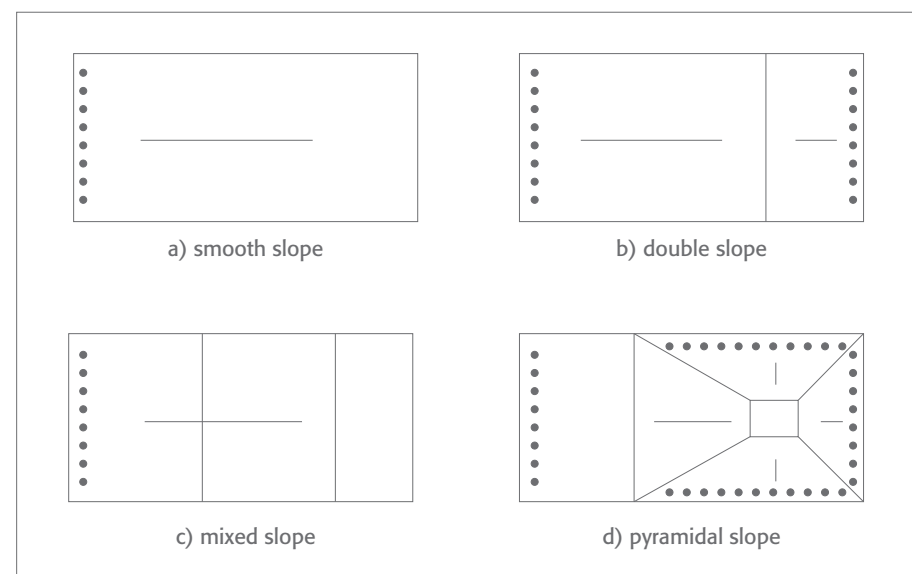

Figure 14: Mechanical fixation on the slopes
a) First fix the pool bottom or wall heel in place with edge trims (5 per linear metre) using whichever of the methods shown in Fig. 14 is appropriate in each case.